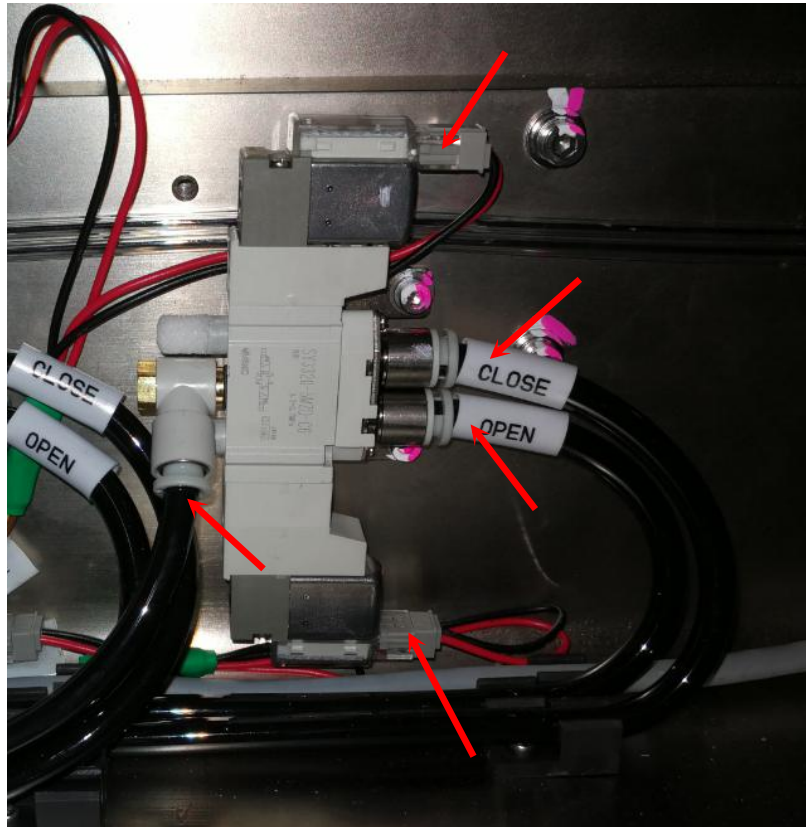

Figure 3 Fix Rail Clamper Solenoid Cable & Tubing Removal
6. Disconnect 2 x Solenoid Valve Cable & 3 x Tubing as below Figure 3